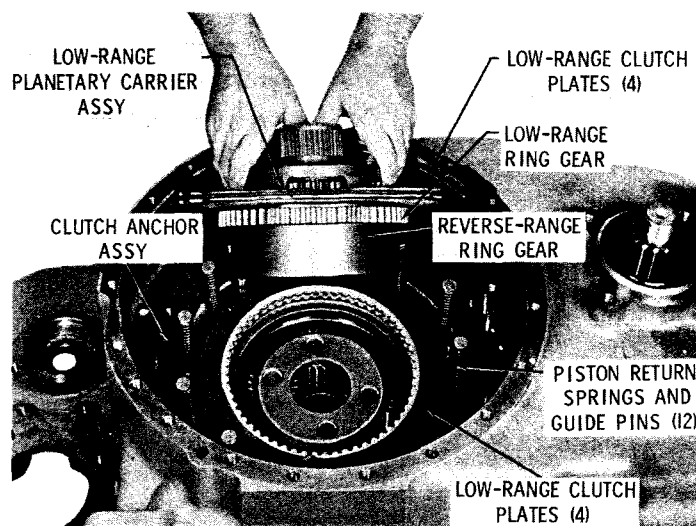

Fig. 5-27. Removing low-range planetary carrier assembly
(5) Remove the low-range planetary carrier assembly, low-range ring gear, four clutch plates, and the attached reverse-range ring gear as a unit (fig. 5-27). Remove thrust washer 2 (B, foldout 5) from the carrier, if present.
(6) Separate the clutch plates and low-range ring gear from the planetary carrier assembly. Remove the twelve piston return springs and guide pins, and remove the remaining four low-range clutch plates from the clutch anchor assembly (fig. 5-27).